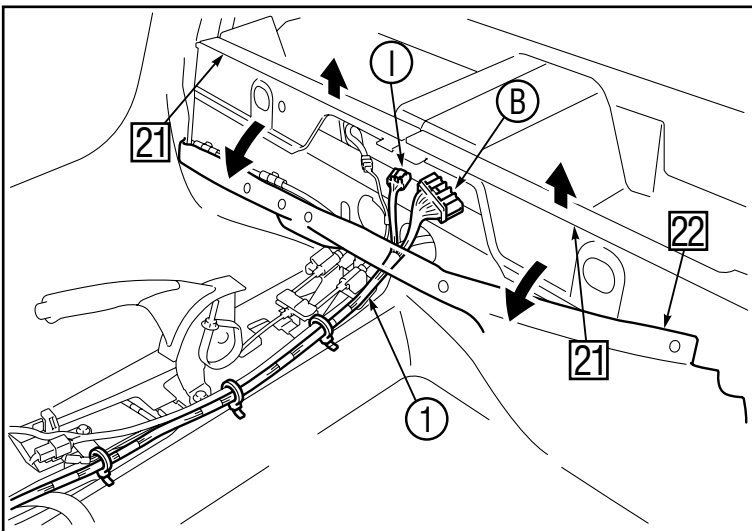

Figure 27
- b) Route the TVSS wire harness (main) ① as shown in Fig. 27.